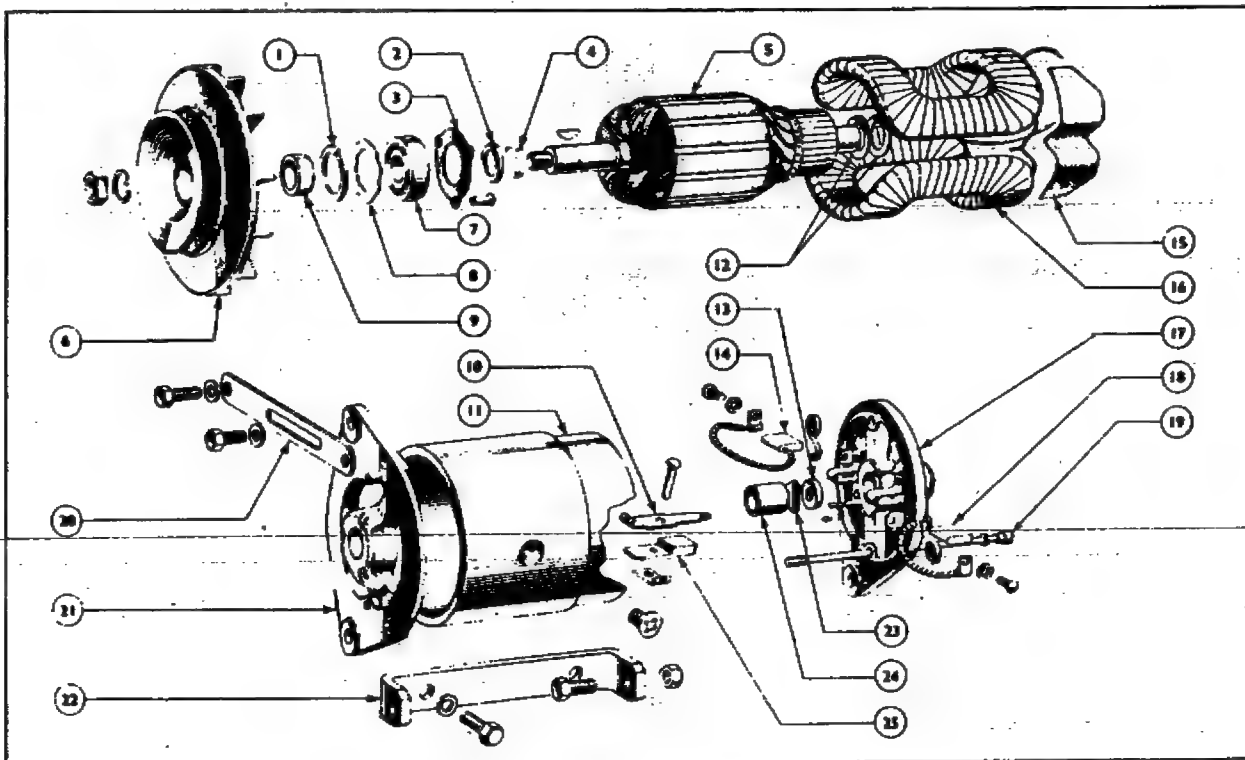

Fig. 1—The 22 amp. (C.40) Generator—Exploded
- and (b) GENERATOR—22 amp. (see Fig. 1)